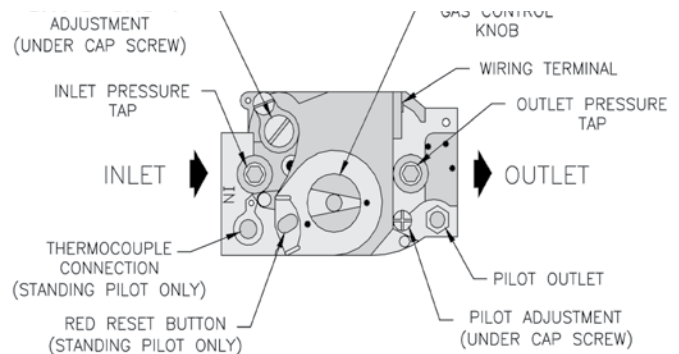

Figure 15: Top View of Honeywell Gas Valves
9. Loosen or remove Inlet Pressure Tap Plug in Combination Gas Valve and when purging is complete, tighten or replace plug. (See Figure 15).
3. With boiler off, water Manometer or water column gauge should be connected to a shut-off valve installed in the 1/8" outlet pressure tap in the gas valve (See Figure 15). By installing gas valve upstream of manometer, gas pressure can be introduced gradually - without shut-off valve; surge of pressure when boiler is turned on, could blow liquid out of manometer. Replace plug in gas valve when rate check is finished.